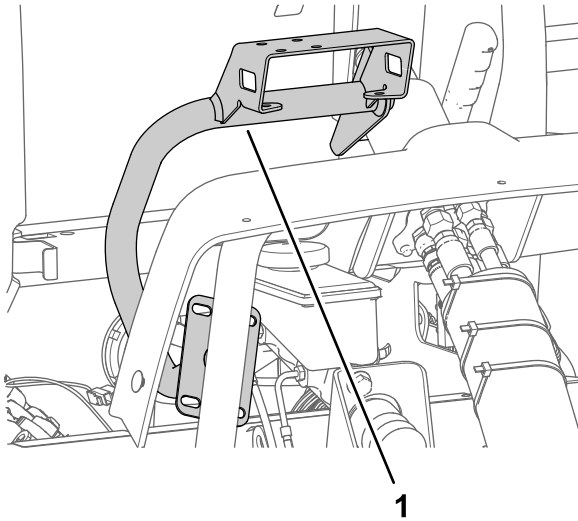

Figure 162
- Align the monitor mount to the machine as shown in Figure 162.